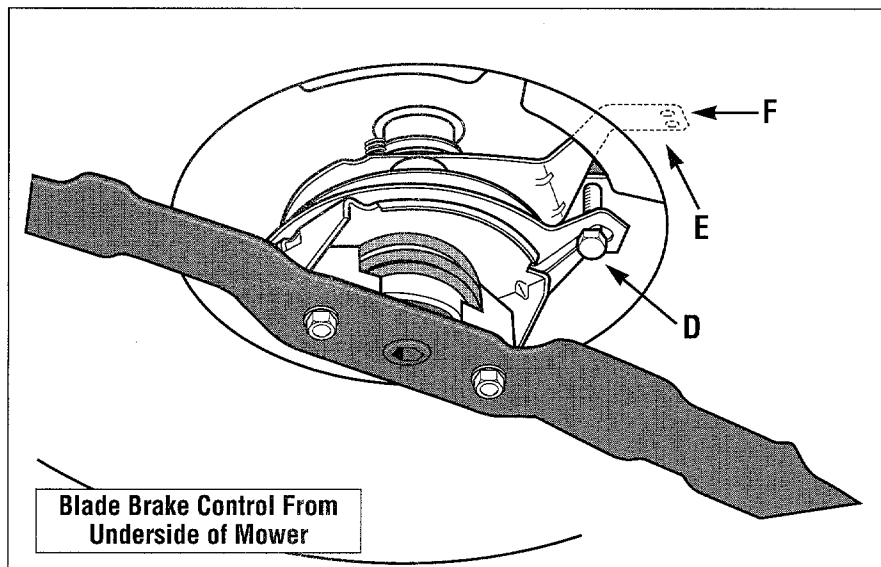
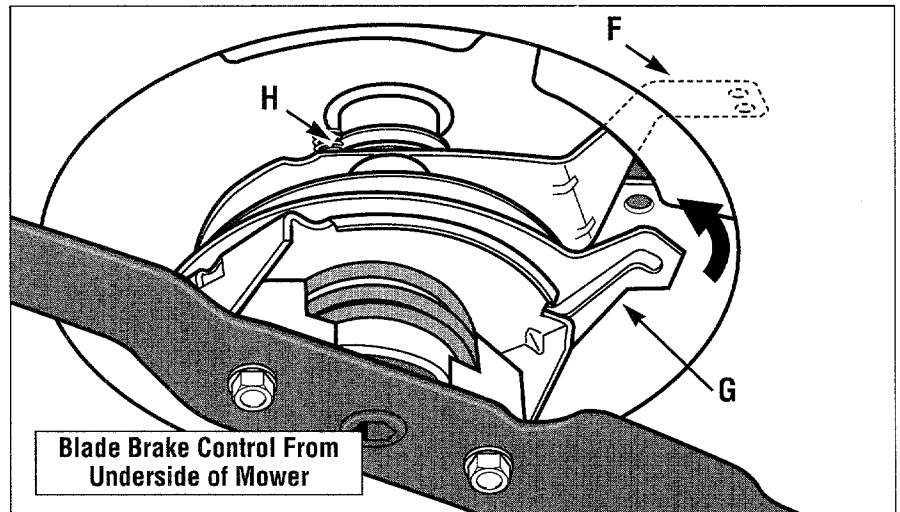

Figure 5-13: Blade Brake Control shoulder bolt and arm.
Figure 5-14: Rotate Blade Brake Control arm and plate for belt installation.
E. Remove the hex head bolt (D) shown in Figure 5-13.
F. Rotate the Blade Brake Control arm (E, Figure 5-13) toward the handlebars. Note the holes (F) for the spring and cable.
K. Maneuver the belt onto the engine crankshaft pulley (**H**, Figure 5-14).
M. Rotate the Blade Brake Control plate (**G**, Figure 5-14) back into position to allow insertion of shoulder bolt (**D**, Figure 5-13). Securely tighten the shoulder bolt.